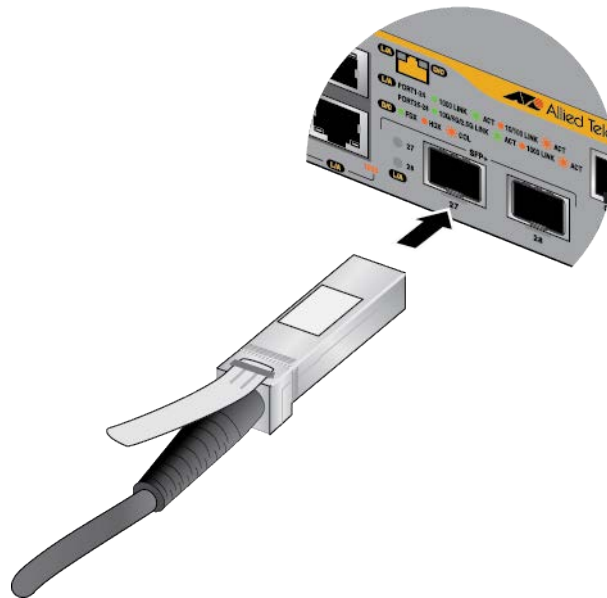

Figure 81. Installing an AT-SP10TW Cable
3. Position the transceiver with the Allied Telesis label facing up. Refer to Figure 81.